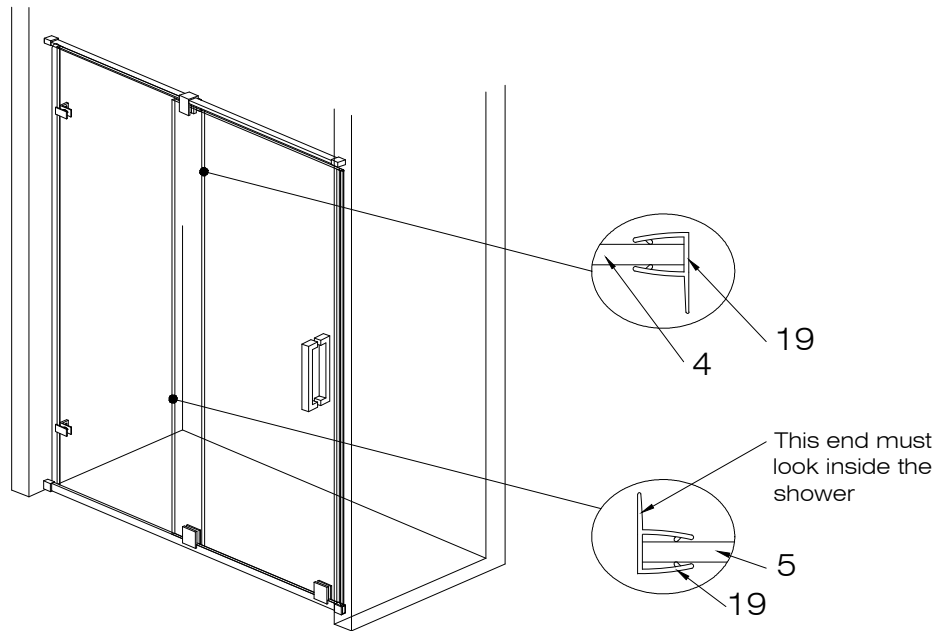

FIG. 11
1. Place the door seal strip (#19) to the door and to the fixed panel, respectively. [SEE FIG.11]